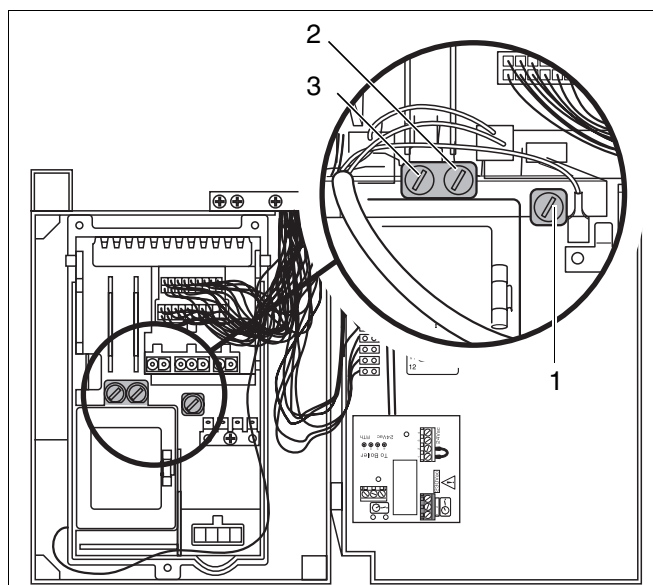

Fig. 64 Checking the miniature fuse
- Check miniature fuses (fig. 64) for correct functioning, or carry out visual inspection. If defective, fit new fuse. All fuses are rated 230 Vac - 1.25 AT.